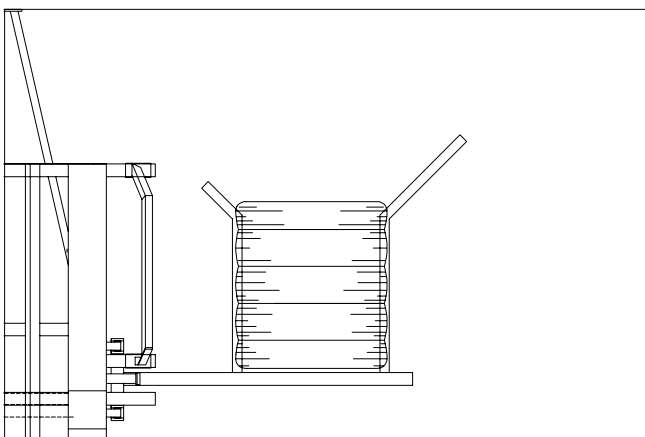

Figure 18
- 4) Raise the loading arm as soon or slightly before the bale reaches the bottom of the "U". (Figure 18)